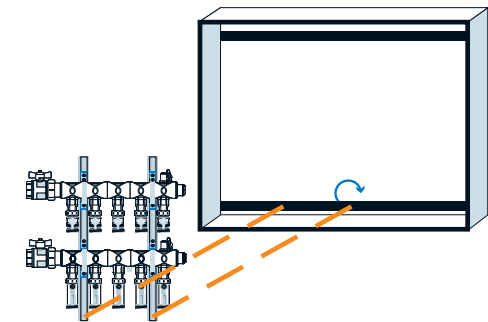

Figure 8: Install manifold onto bottom rail
3. To install the manifold assembly onto the bottom rail of the cabinet, tilt the top of the assembly forward and the bottom backwards so the bottom of the vertical supports slide behind the lip of the bottom rail (see **Figure 8**).